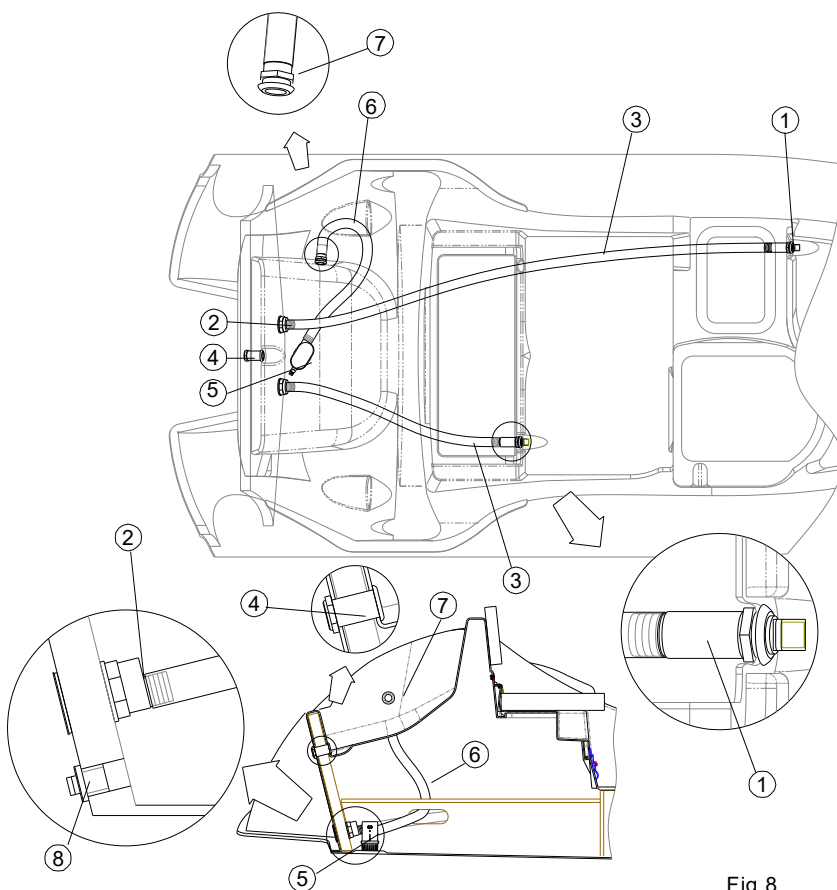

Fig.8
Drain system, (Fig. 8), consists of the three independent systems:
WARNING	<p>Bilge valve (8)(Fig.8) should be tightly CLOSED when the boat on the water</p> <p>Bilge valve (8)(Fig.8) should be open when the boat is out of the water</p>